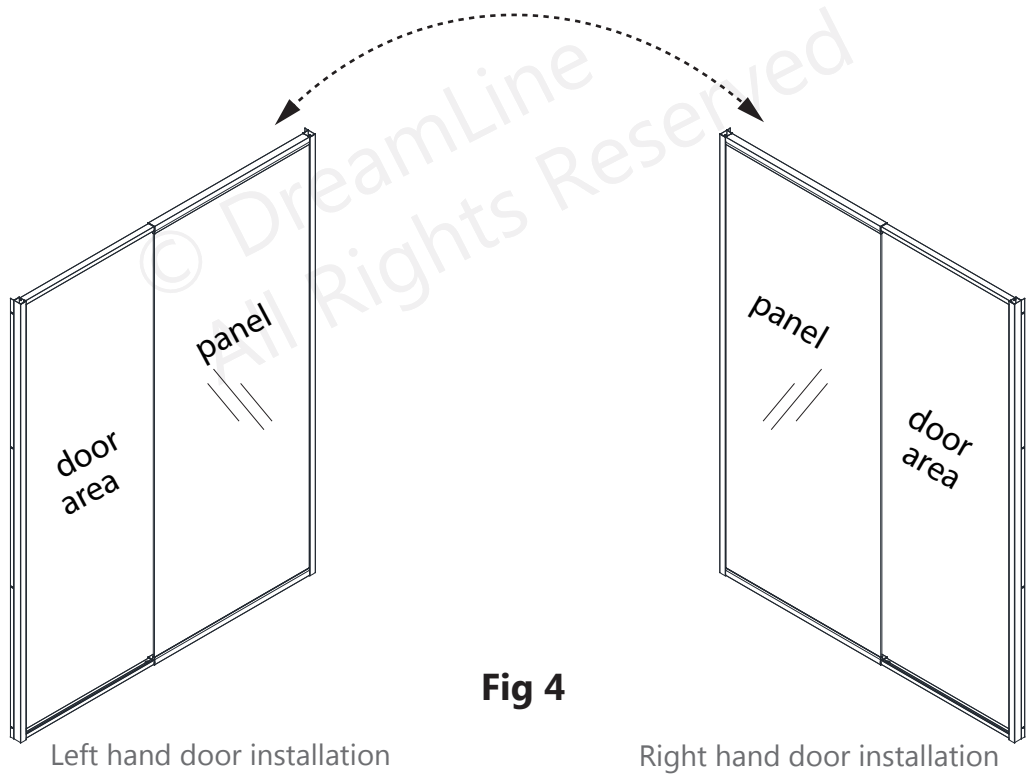

Fig 4
4. At this point, the entire assembly can be flipped top to bottom for either left or right hand door installation. However, the flanges on the wall profiles must face into the shower. **(Fig 4)**